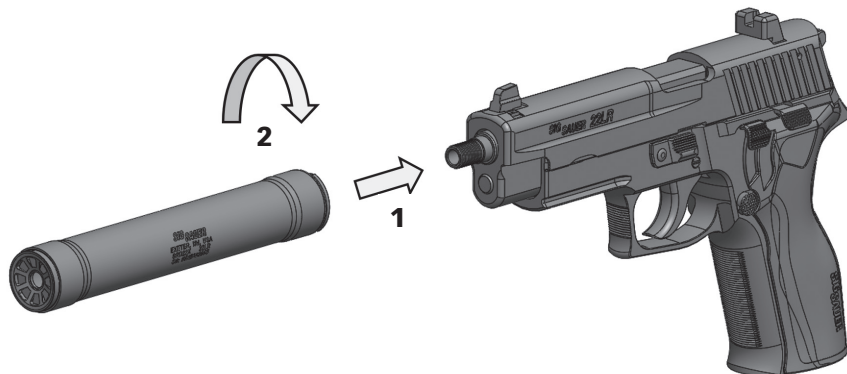

Fig. 3.1b
b. Being careful to avoid cross threading the parts, place the opening of the mount on the muzzle of the host firearm and screw the suppressor on firmly hand tight (See Fig 3.1b).